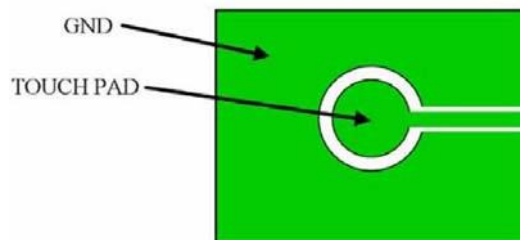

Figure 5 TOUCH PAD Reference Drawing
4. From TOUCH PAD to IC pin TCH Do not cross other fast-jumping signal lines or cross other lines. TOUCH PAD needs to be protected by GROUND, please refer to Figure 5